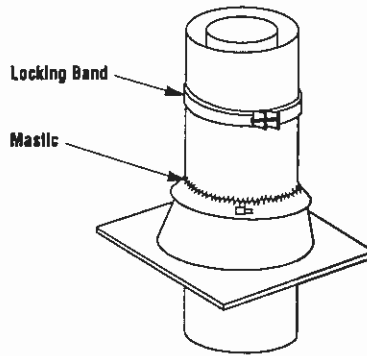

Figure 29
**Step 8.** The standard FireCraft FTF8 roof flashing assemblies include a storm collar. Slide the storm collar over outer chimney, rest on flashing spacers and align with top surface of flashing. Insert tab in slot, pull tight and bend tab back over slot. Seal storm collar to outer chimney with roof caulking or mastic around entire circumference of pipe. Also add extra roof caulking to the tab/slot area to seal completely against water penetration (Figure 29). Check all joints very carefully to ensure no water intrusion can take place.
**Step 9.** FireCraft locking bands, Model FLB, may be required if the chimney extends too high above the roof flashing. As a general rule, if the chimney extends more than 6' above the roof flashing, the use of locking bands is advisable to strengthen the chimney assembly. Align the locking band at the chimney joint. Locking bands wrap around pipe joints equally covering the joints of both pipe sections. Use the nut provided and TIGHTEN snugly. Do not over-tighten as this might damage the chimney section (refer to Figure 29).